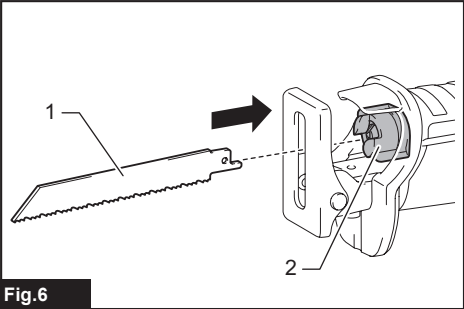

Fig.6
- ▶ **Fig.6:** 1. Reciprocating saw blade 2. Blade clamp sleeve